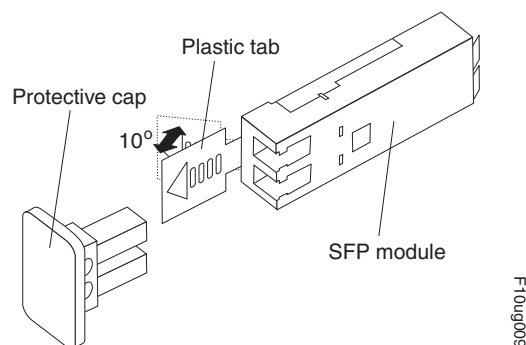

Figure 104. Unlocking the SFP module latch - plastic variety
- For SFP modules that contain plastic tabs, unlock the SFP module latch by pulling the plastic tab outward 10°, as shown in Figure 104.